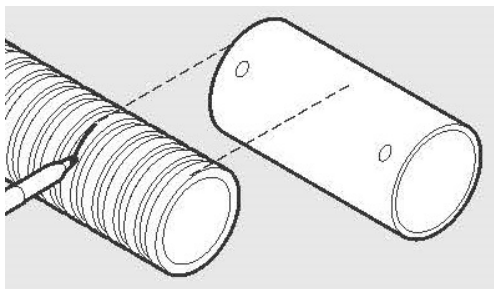

Figure 28
2. Overlap ends of the corrugated conduit. Place conduit at center of coupler and mark at the end as shown in Figure 28.